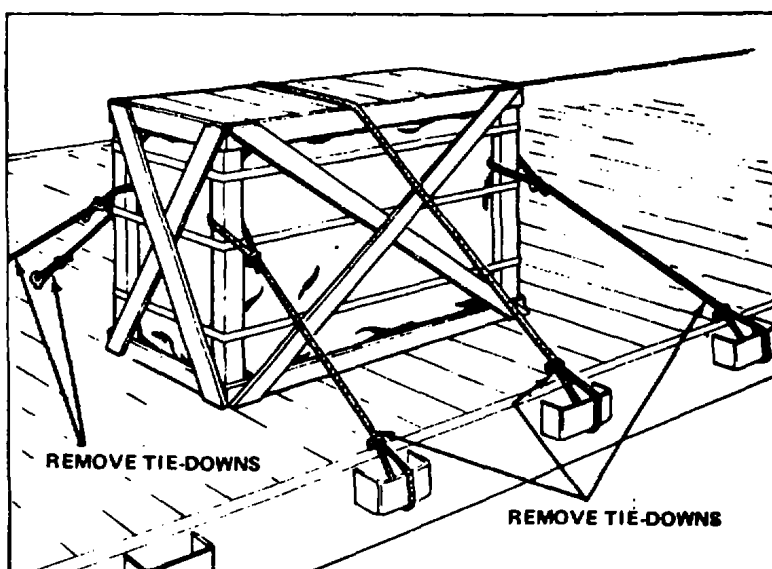

Figure 4. Shipping tie-downs
1. Remove all tie-downs and blocking that secure the crate to carrier. Refer to figure 4.